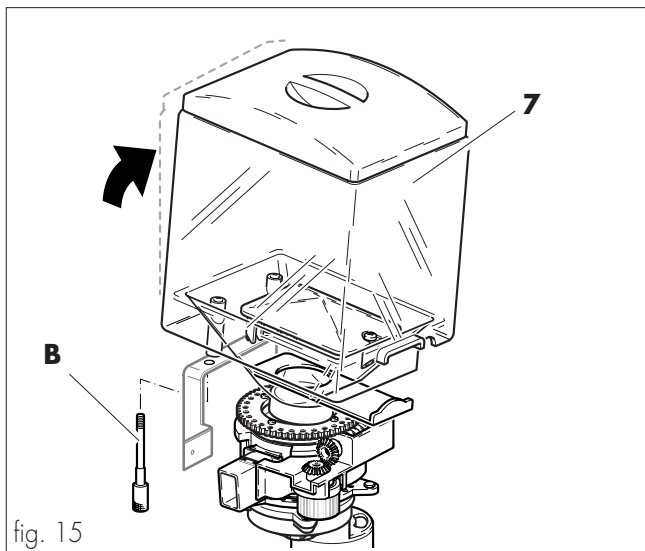

fig. 15
- Remove the screws (ref. B, fig. 15) from the hopper (ref. 7, fig. 15), and then slide this out of the machine by rotating it slightly upwards from the back.